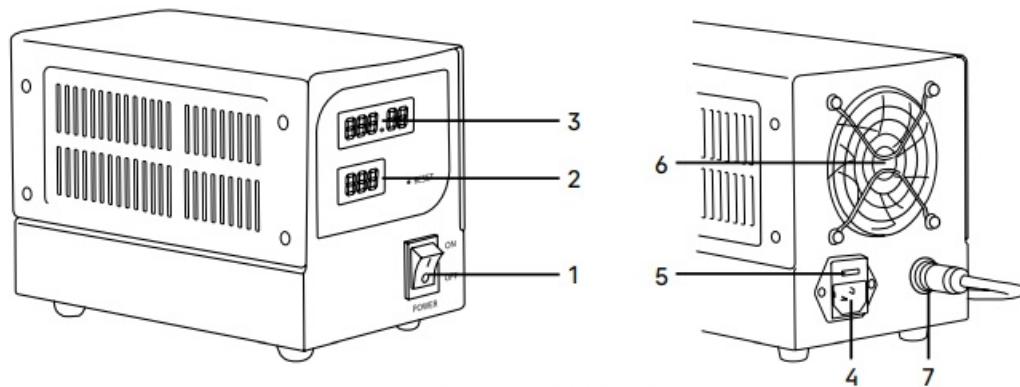

Fig. 5. Mercury lamphouse power supply
- The external view of the mercury lamphouse power supply is shown in Fig. 5.
- The mercury lamphouse power cord is plugged into the connector of the power supply 7 (Fig. 5). The power supply is connected to the AC power outlet using an AC power cord.
- The AC power cord is plugged into the connector 4 (Fig. 5).
- The mercury lamp power supply is turned on by switch 1 (Fig. 5). After ignition, it takes at least 10 minutes for the mercury lamp to become fully operational.